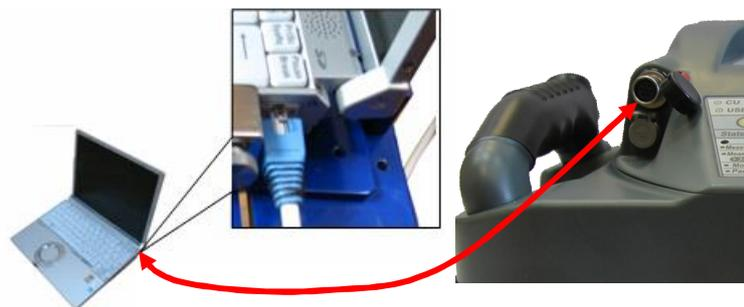

Fig. 5.12 GPR detector connection to a laptop
There is a provision in the GPR detector to record the sounding results both in detection mode and GPR mode to a laptop, which is connected to the GPR detector by means of a special 10 m long Ethernet cable. Schematic overview of the GPR detector connection to a laptop is shown in fig. 5.12.
- connect the laptop to the GPR detector by Ethernet cable as shown in fig. 5.12;